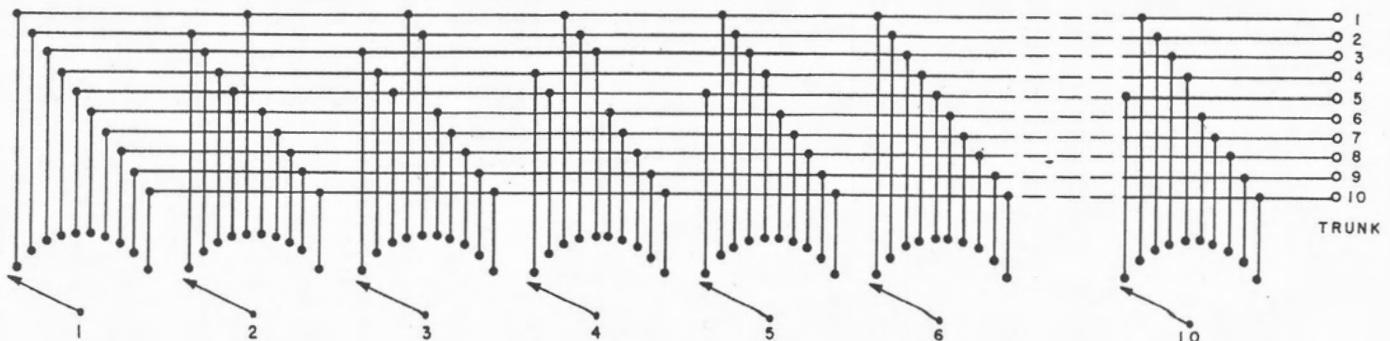

Figure 10. Selector bank multiple for one level having a "slip" of one in the first five contacts.
**4.1.2 Slips.** Another method used to help equalize the load to succeeding switches in a small office is the slip. A slip may be found in the bank multiple of a selector shelf that terminates on a terminal block or a distributing terminal assembly (DTA). The slip changes the sequence in which the trunks to the succeeding switches appear to individual selectors within a shelf. Normally only the first five contacts in each bank are included in the slip, while the remaining five contacts are multiplied straight. This type of slip is illustrated in figure 10, and is known as a "forward slip of one". In figure 10 only seven of the ten selector banks for one level are shown. Notice that trunk number one is the first choice of selector one; trunk two, the first choice of selector two; trunk three, the first choice of selector three; trunk four, the first choice of selector four; and trunk